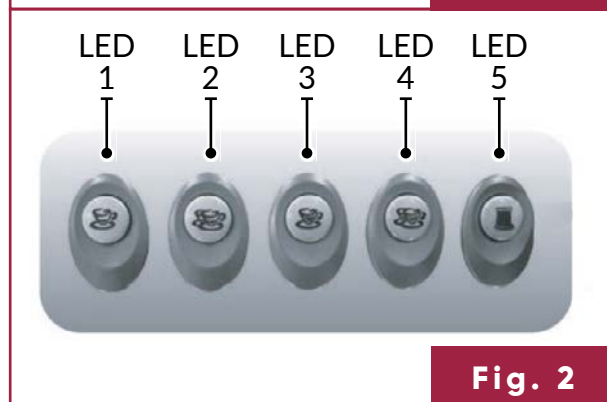

Fig. 2
2. The output LEDs (Fig. 2) should be lit with the 5th button flashing, indicating the machine is in setup mode.